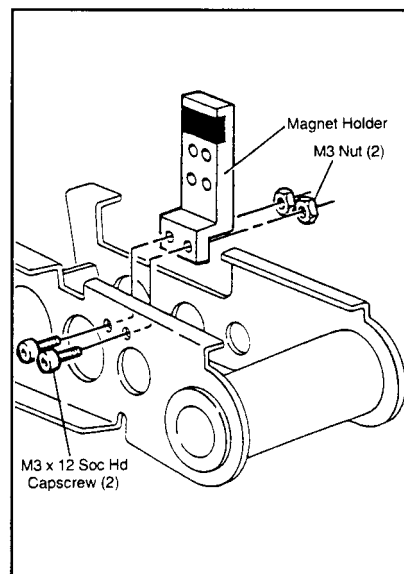

Figure 12
6. Attach the magnet holder to the cut-off frame with two M3 x 12 soc hd capscrews and nuts as shown in Figure 12. **Important** – Install screws in direction shown.